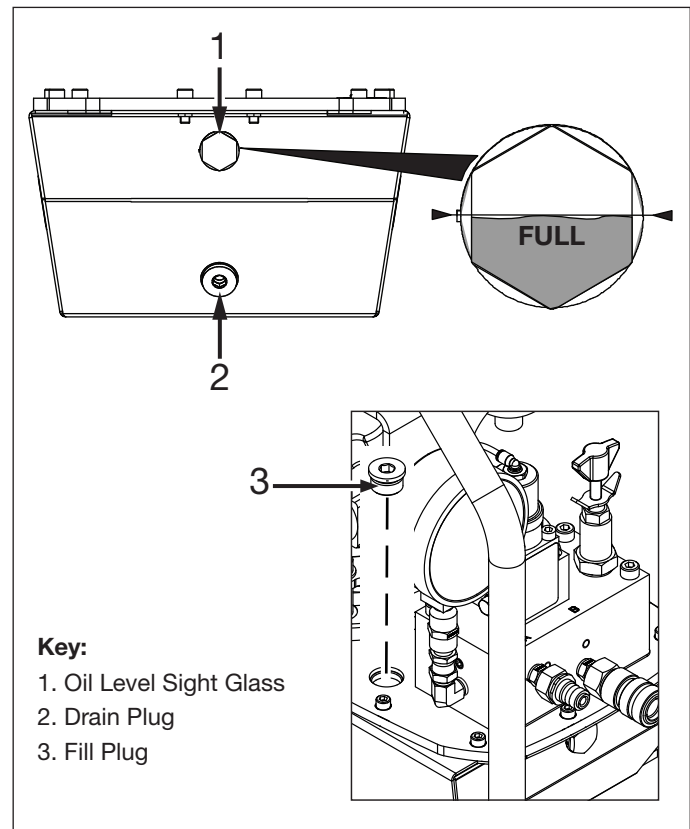

Figure 3: Hydraulic Reservoir
The hydraulic reservoir is pre filled with oil at the factory. However, the oil level should always be checked as a precaution before running the pump. See Figure 3 and refer to the following steps:
1. If compressed air hose was previously connected to pump: Be certain that compressed air supply is shut off and that air pressure gauge on filter/regulator indicates zero (0) psi/bar. Be sure that the hydraulic pressure gauge also indicates zero (0) psi/bar.
2. With the pump on a level surface, check the oil level in the oil level sight glass at the front of the reservoir. The reservoir is FULL when oil level is about halfway between the top and bottom of the sight glass. Refer to Figure 3.